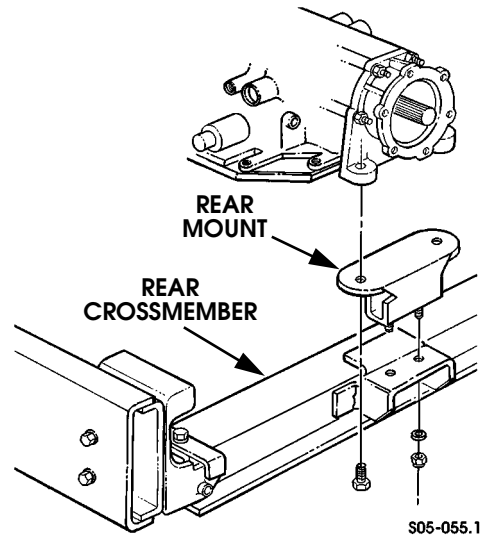

Figure 5-59: Rear Mount Replacement
3. Remove rear mount from crossmember (Figure 5-59).